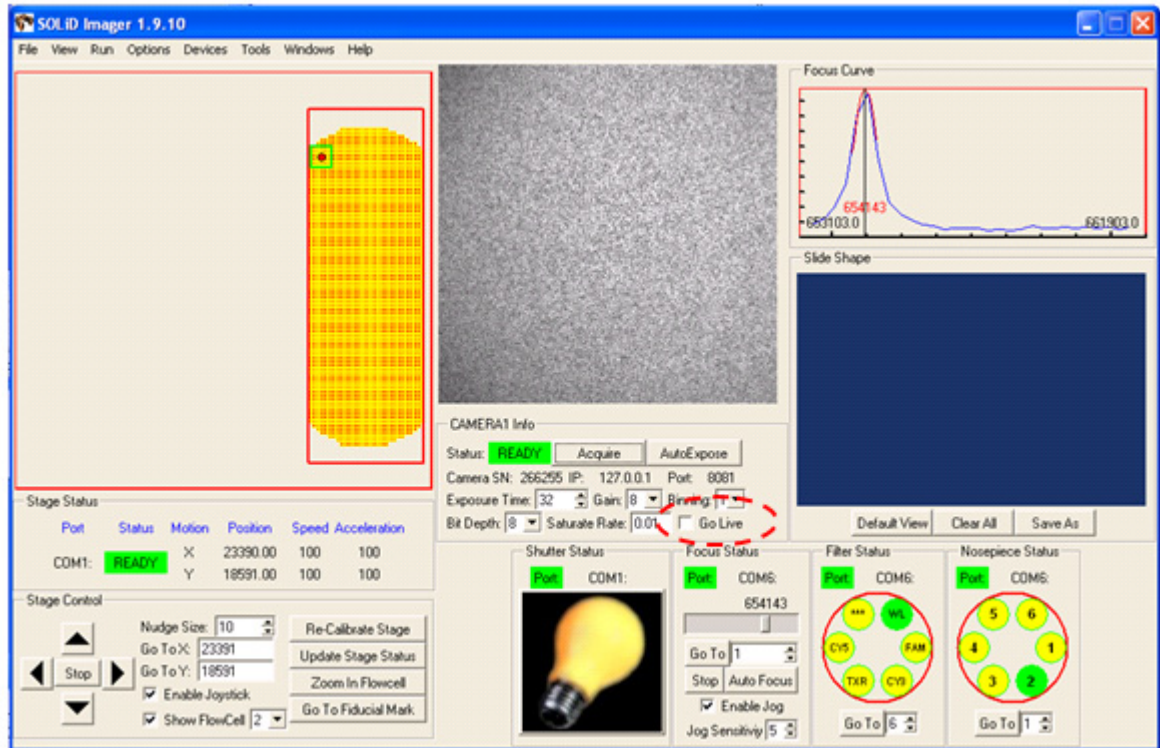

Figure 81 Check **Go Live** to manually find the focal range.
5. Check the **Go Live** check box in the Imager window. By checking the **Go Live** check box, a live image of the flowcell displays. You can use this image to manually find the focal range (see Figure 81 on page 107).